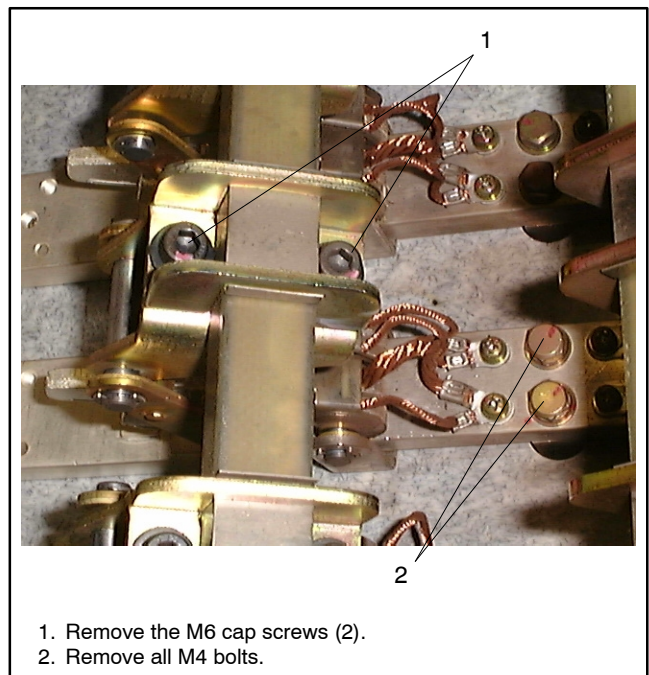

Figure 9-15 Remove Contact Screws
3. Remove the M6 cap screws and all M4 bolts as shown in Figure 9-15.